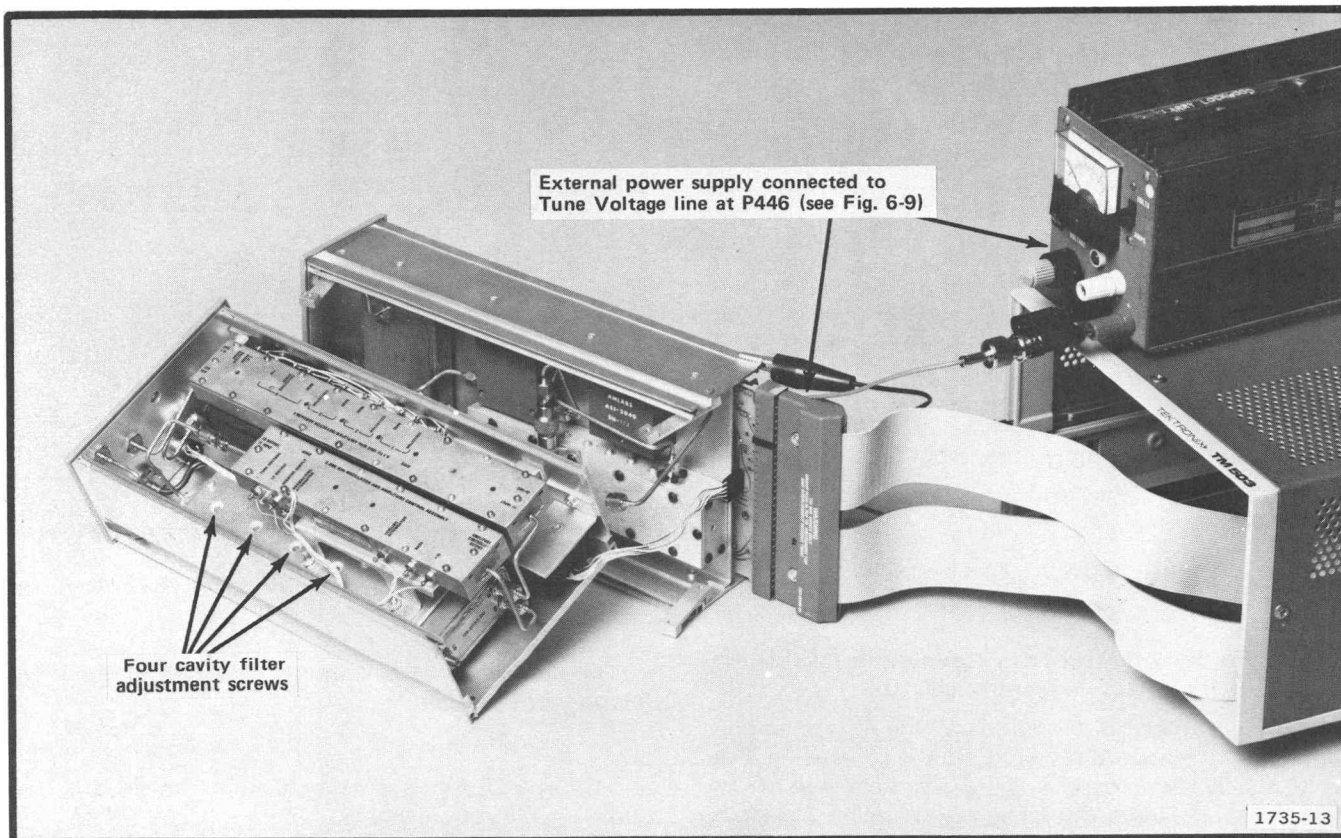

Fig. 6-8. Positioning the TR 501 to adjust the 2.2 GHz filter and mixer assemblies.
a. Separate the two sections as previously described and position the two sections so the filter adjustments are accessible (Fig. 6-8). Remove P446 (Tune Voltage Line Fig. 6-9). Reconnect P370 and P210 to the Mother board and Leveling Loop and Bias board. Connect the + terminal of an external power supply to the Tune Voltage terminal of the 2.095 GHz Oscillator and Amplitude Control microwave assembly or the oscillator pin side of J446 (see Fig. 6-9). Adjust the power supply output for +7 volt then switch the TM 500 mainframe power on.